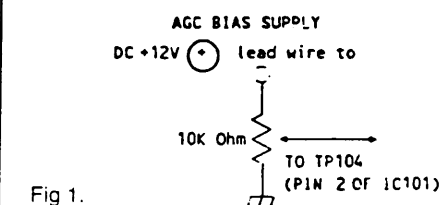

Fig 1.
Preparation Step (see fig 1)
- Apply a +5.2V dummy AGC bias to TP104 (pin 2 of IC101) (see fig1).